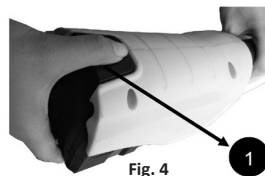

Fig. 4
- Press the button (1) on the handle.
- Slide the battery backward, then pull or lift the battery out of the tool (see fig. 4).